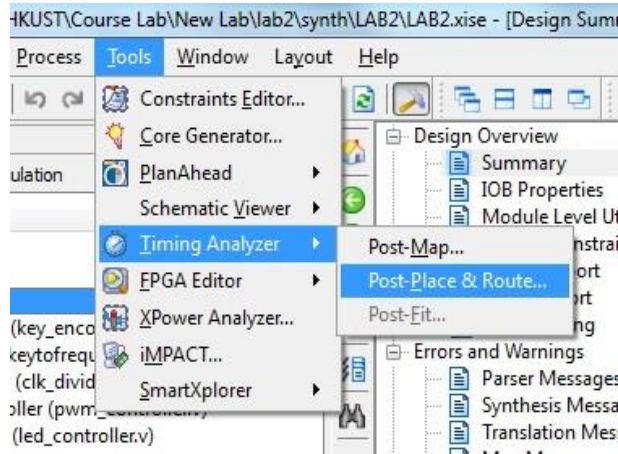

Fig. 5: Performing Static Timing Analysis-1
7. You will now learn to do Static Timing Analysis (STA) using Timing Analyzer. Go to **Tools -> Timing Analyzer** and click on **Post-Place & Route** as shown in Fig. 5